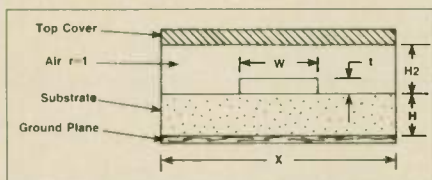

Figure 3. Microstrip dimensions.
The closed-form equations for microstrip were taken from the articles written by March (2) and Bahl (3). The most accurate equations are those by March which are used in the microstrip program. The dimensions for covered microstrip are shown in Figure 3. It should be noted that the equations do not take into account the presence of side walls. The distance between the side wall and the microstrip line must be a minimum of five times the strip width W, otherwise the impedance and dielectric constant will be affected. Also, the "X" dimension of the enclosure should be chosen such that the waveguide modes are below cutoff.